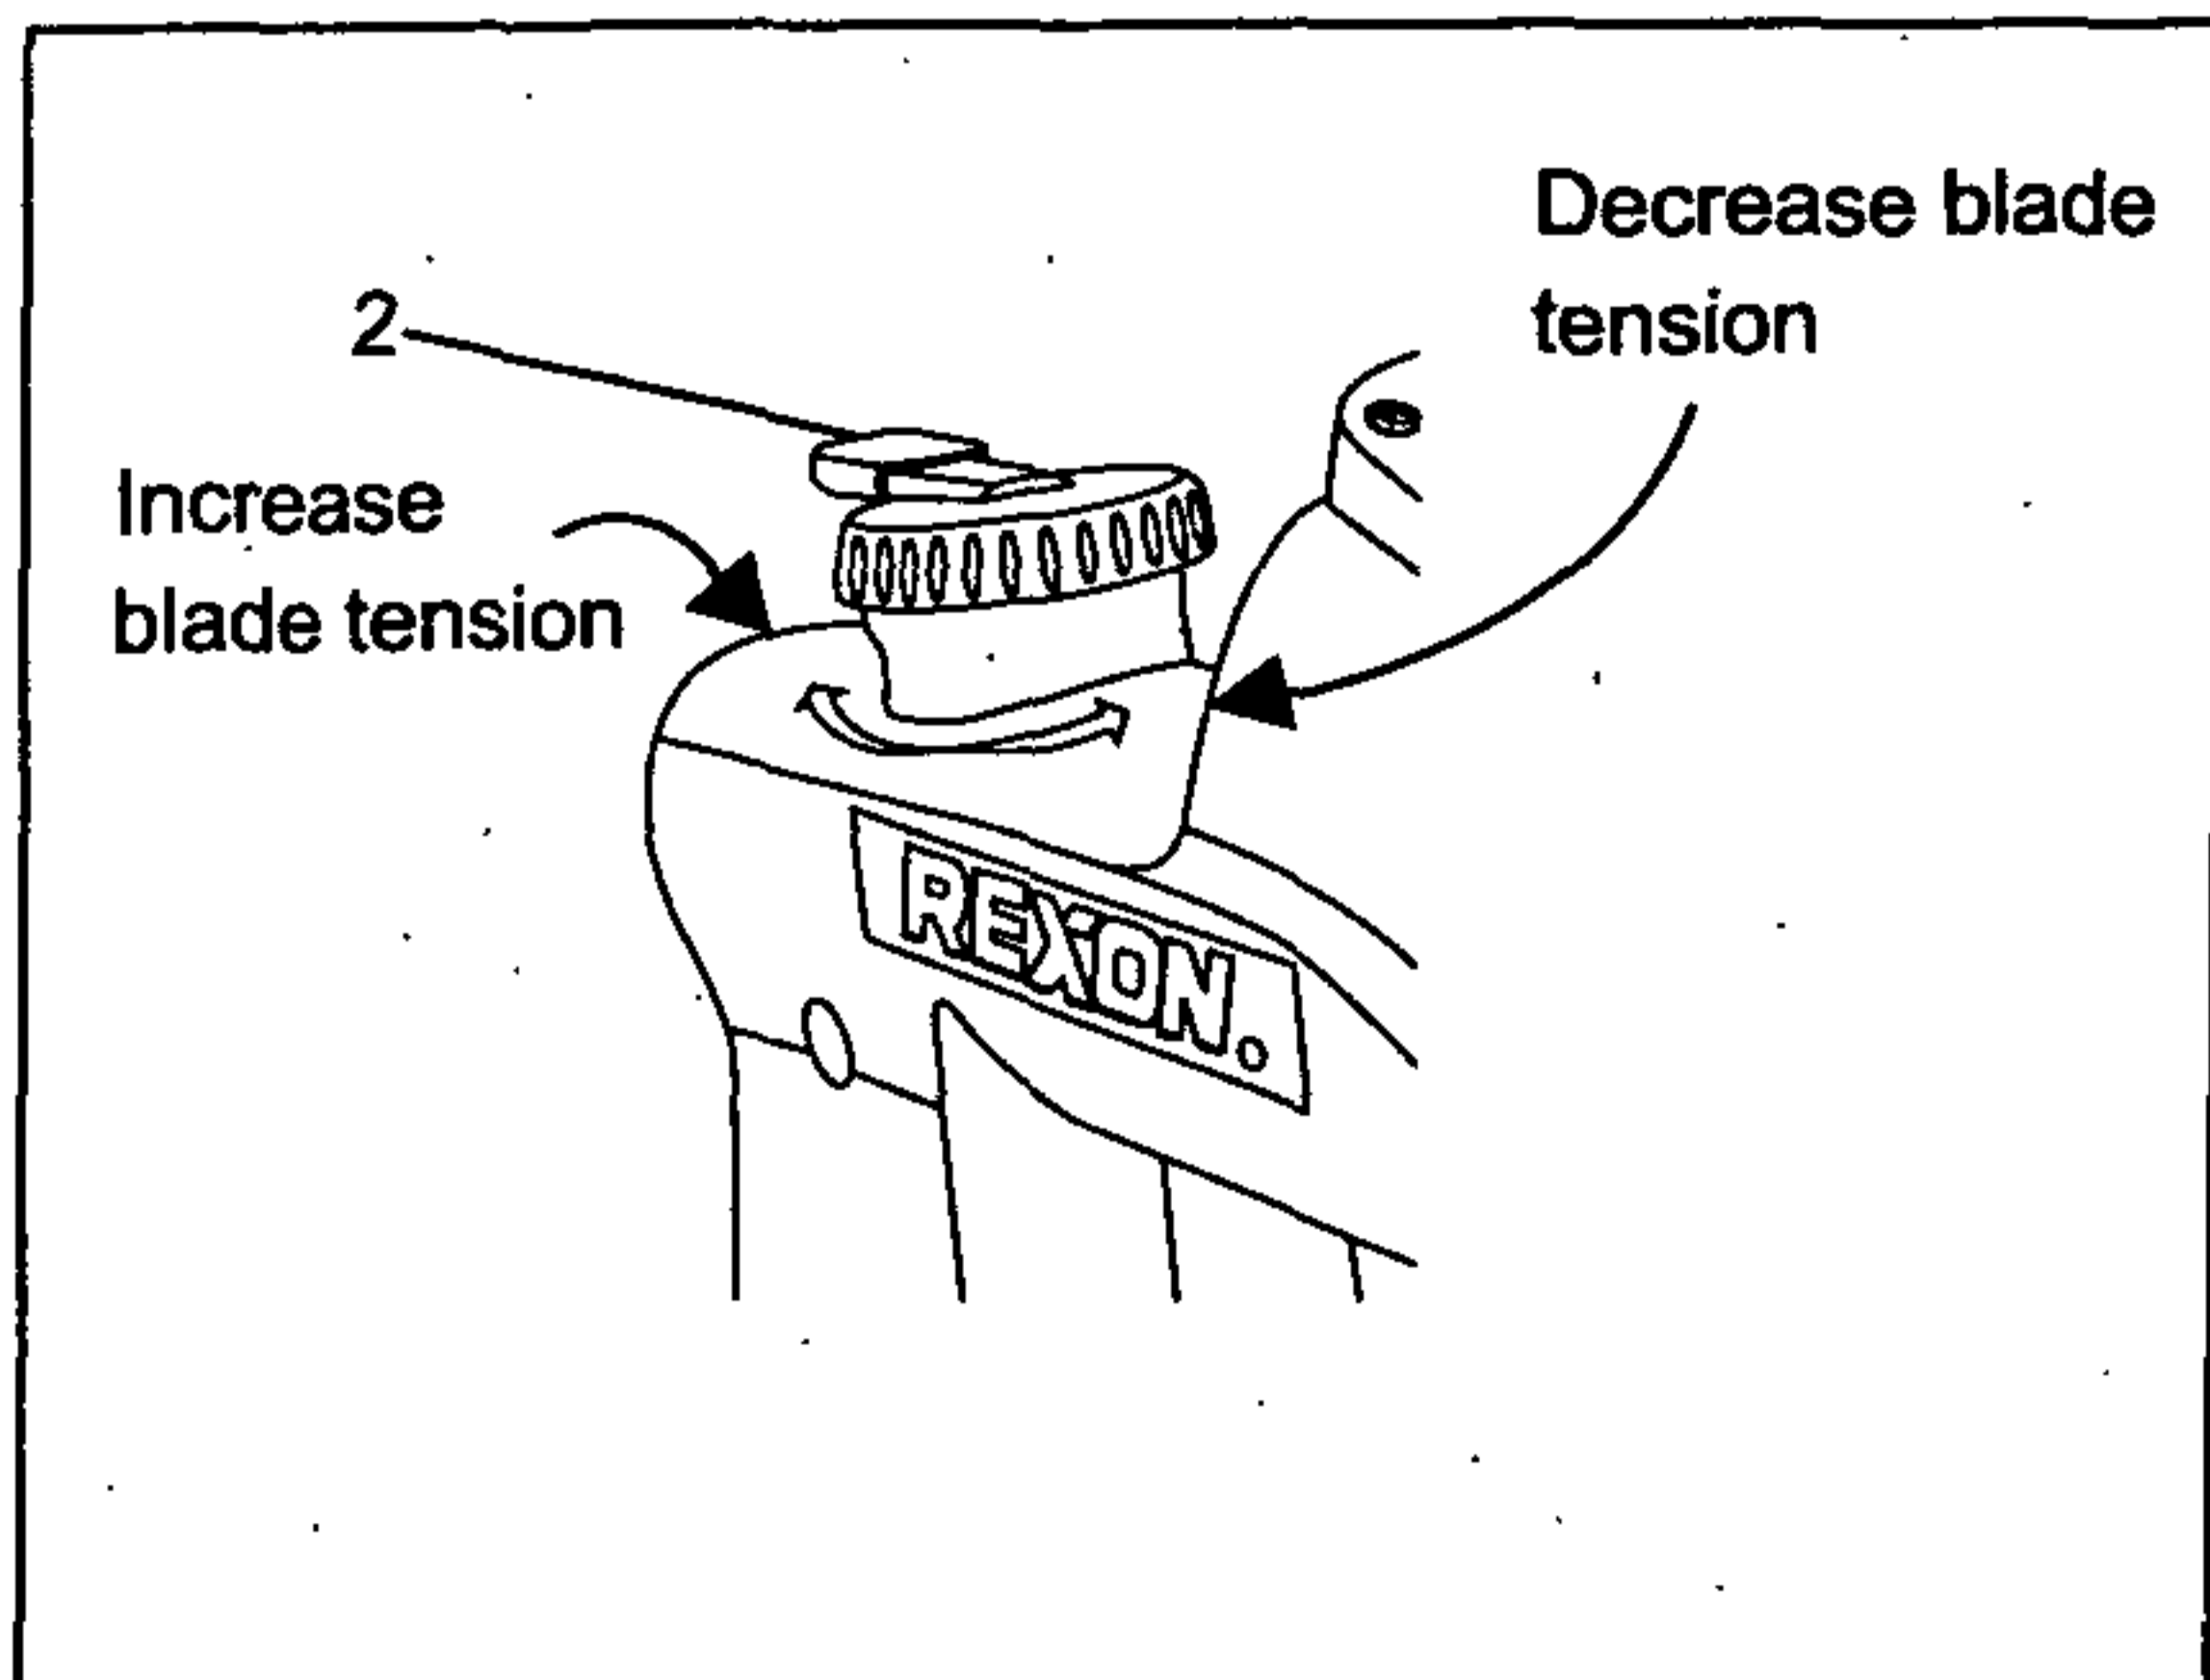

Fig. 4
8. Push the quick tension release lever (2) downward. Increase the tension on the blade by turning the quick release knob clockwise. Check the tension on the blade. If too loose, turn quick release knob clockwise. Do not make too tight or the blade will easily break in use. (Fig. 4)